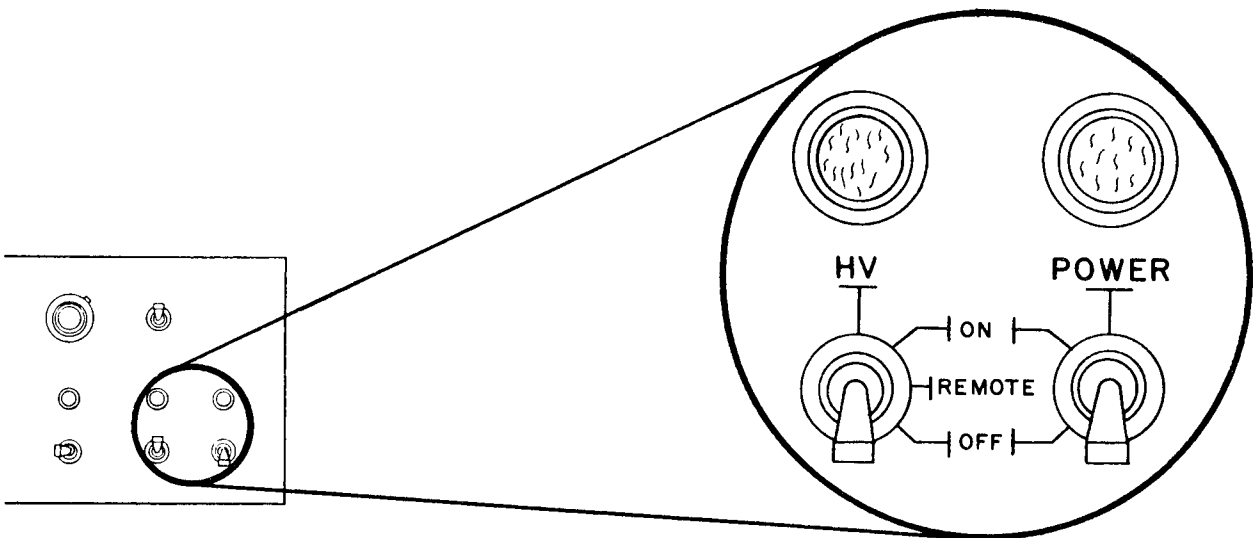

Figure 37. POWER and HV Switches Set to OFF
- a. Ensure the POWER switch and the HV switch are set to OFF (see Figure 37).